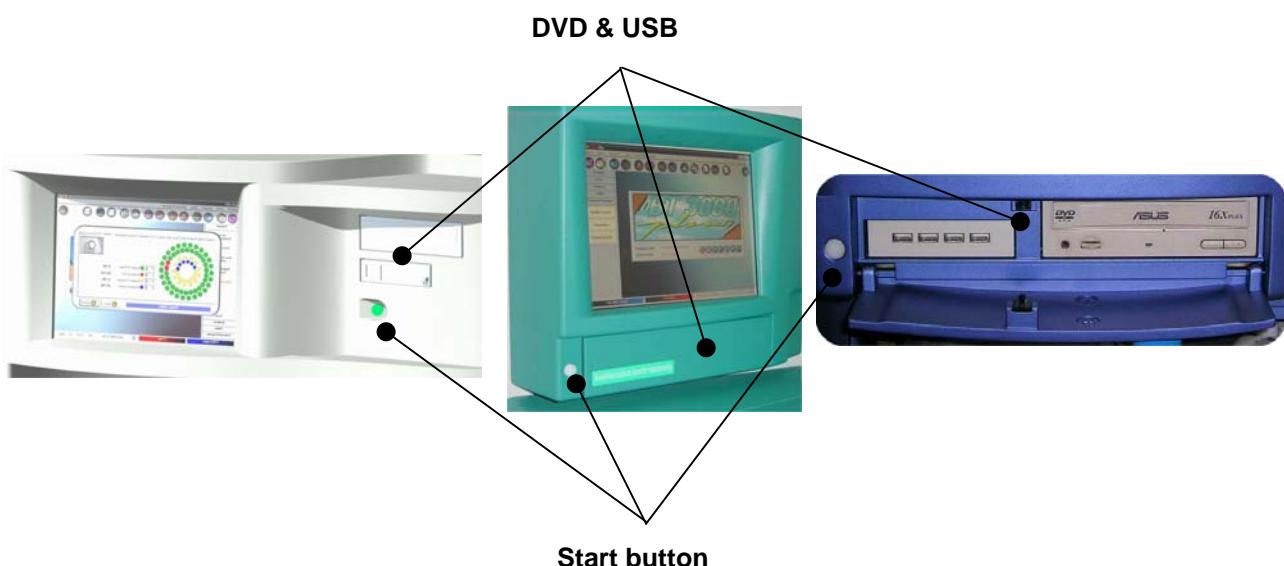

Figure 8
- 3) To switch on the analyzer, use the main power switch on the rear panel of the instrument. This button activates only the refrigerating system for the reagents, where available. To properly turn on the analyzer system, press once the green push-button placed on the front panel (**Fig. 8**). For what concerns the **BT1500**, verify first that the external PC is connected to the analyzer via USB, then turn the PC on and load the analyzer operative program.